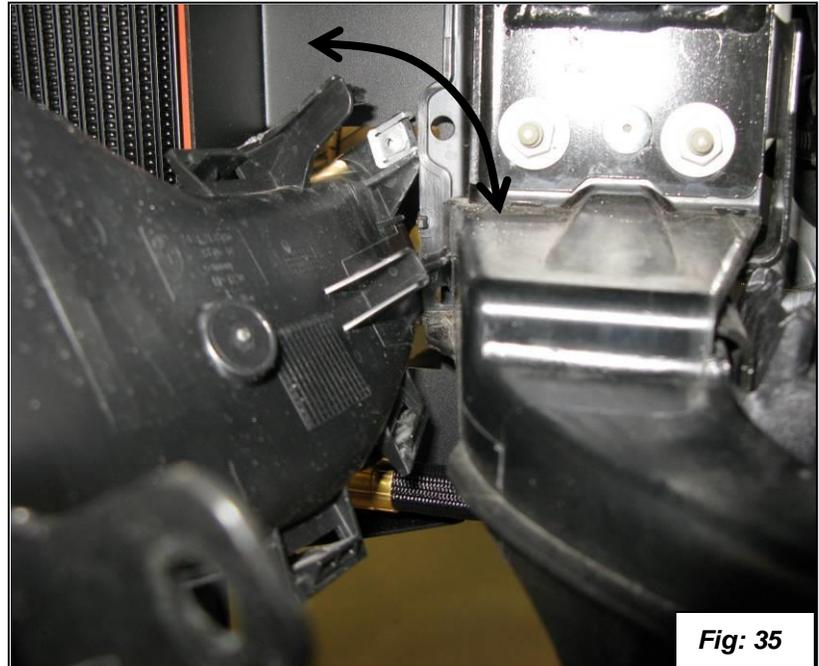

Fig: 35
42. Install the brake duct. You do not need to cut the brake duct. It will fit into the opening by going in at an angle as shown in figure 35 and twisting back and forth as you install it around the obstacles.